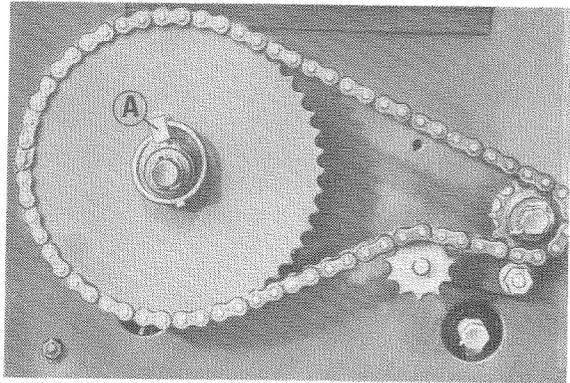

Fig. 13
- Remove the spring pin A (fig. 13) in the sprocket outside the end plate of the hopper to free the agitator shaft.